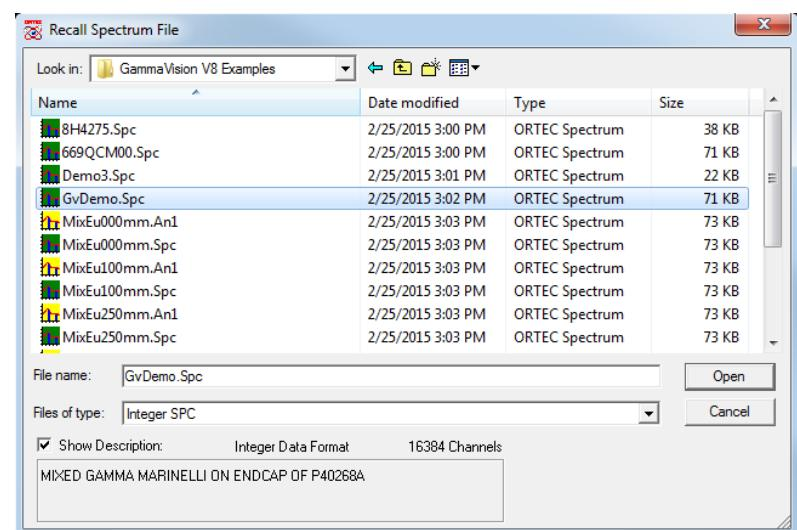

Figure 11. Recalling a Spectrum File.
If a Detector or buffer window is already open, click its Close box (X). Next, recall **GVDEMO.SPC** from the menu bar by clicking on **File**, then **Recall....**. This will open a dialog showing the list of spectrum files in the **C:\User** folder. If you did not copy the example files into this folder, look in the **\Gammaamma-Vision V8 Examples** folder, as shown in Fig. 11. From the list of files, double-click **GVDEMO.SPC**, or click once on the file name and then **Open**.